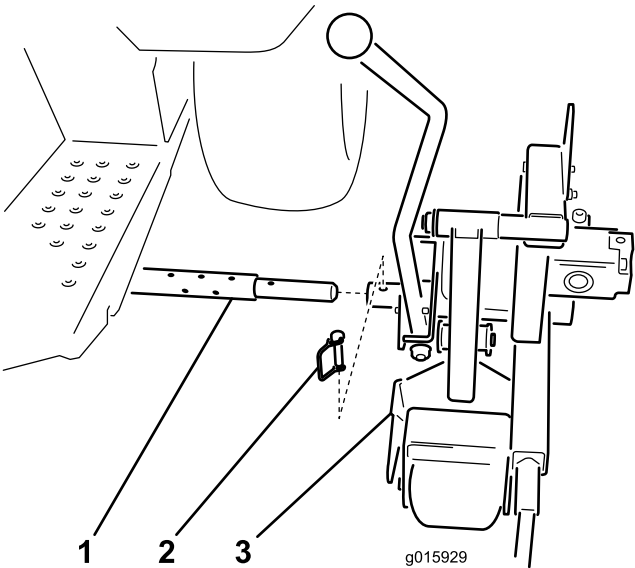

Figure 12
1. Slide the cutter head pivot tube onto the cross tube (Figure 12).
2. Secure the cutter head to the cross tube with the hitch pin (Figure 12).